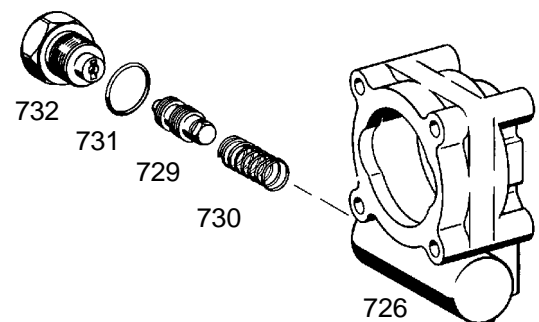

Fig. 8
Unscrew protecting screw (732) and remove O-ring (731) (**Fig. 8**).